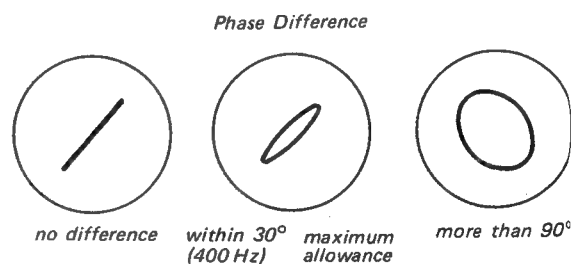

Fig. 12-10 Lissajous figures
- (1) Playback the 2nd tone (400Hz) of SONY alignment tape J-19-F₁ or J-19-K₁.
- (2) Adjust the p.b. head azimuth adjusting screw to obtain the Lissajous figure with no phase difference as shown in Fig. 12-10 on the oscilloscope.
- (3) Playback the 1st tone (10kHz) of SONY alignment tape J-19-F₁, or J-19-K₁.
- (4) Adjust the p.b. head azimuth adjusting screw exactly so that the phase difference between L-CH and R-CH is less than 90°.